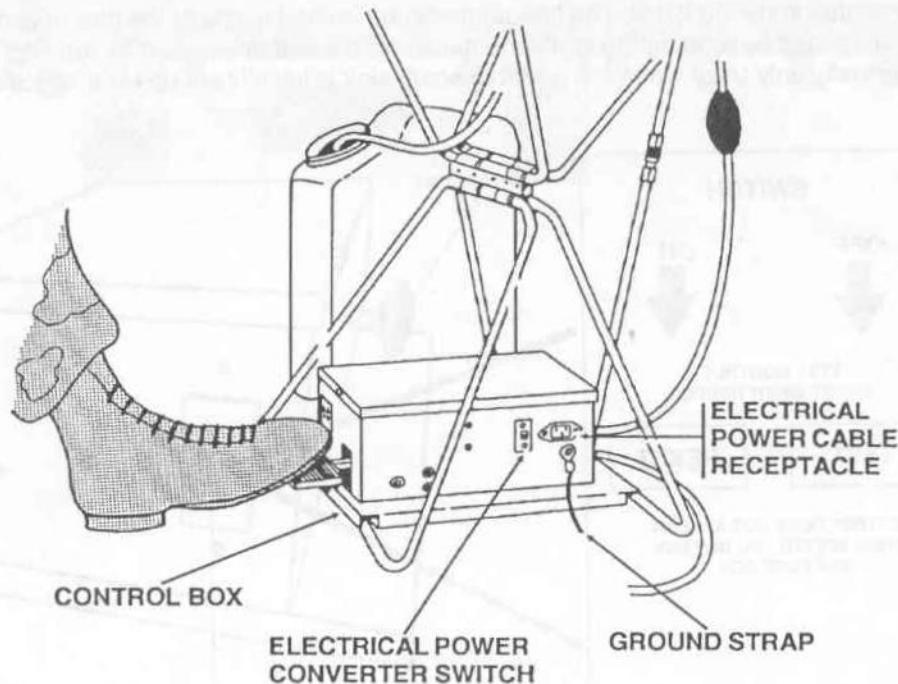

Figure 2-17. Electrical power converter switch.
e. *Electrical power converter switch* (fig 2-17). The electrical power converter switch is used to select either 115 volts or 230 volts to match the voltage of the electrical power source.